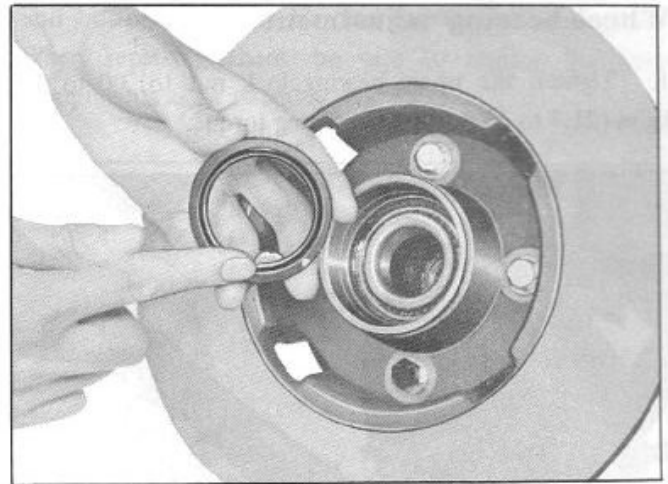

Fig. FA-21 Filling grease seal lip pocket with grease
4. Fill the spaces between wheel bearing rollers and grease seal lip pocket with multi-purpose grease sufficiently. (See Figures FA-21 and FA-22.)